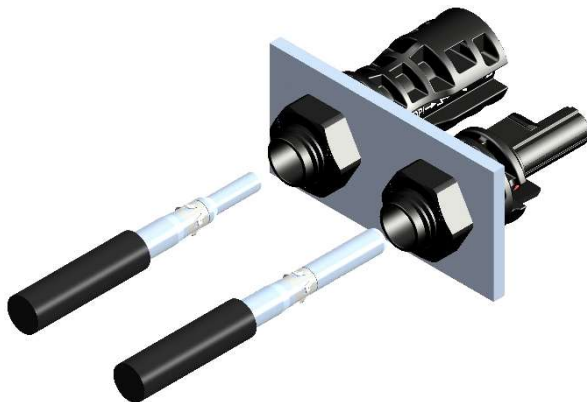
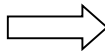

Figure 18
Figure 19
- ✧ 压接好的插针/插套插入到公端面板连接器/母端面板连接器内，直至其啮合（如图 18）。轻轻拉动导线，检查金属件是否啮合牢固（如图 19）。
Insert the crimped male or female terminals into corresponding male or female panel connectors separately until they engaged (Fig.18). Pull lightly on the lead to check that the metal part has engaged (Fig. 19).